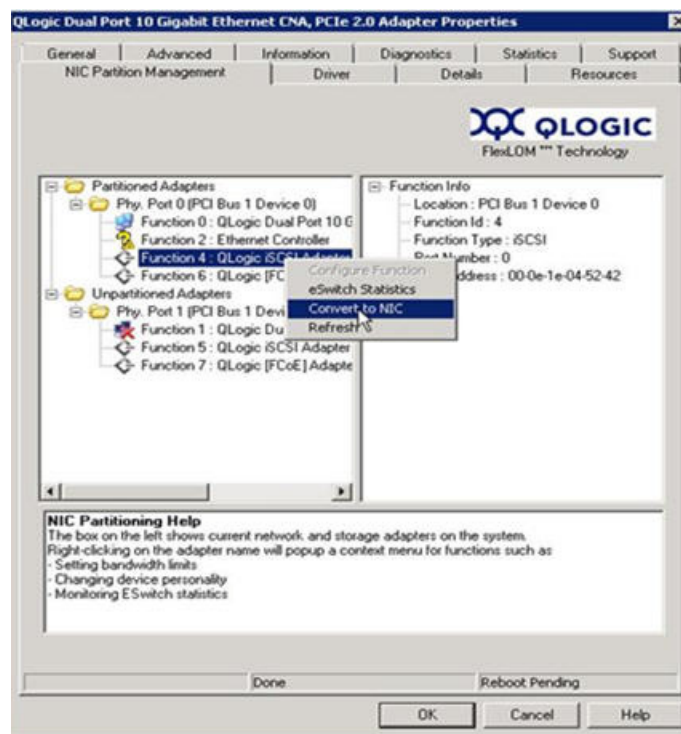

Figure 2-42. Selecting Convert to NIC from Context Menu
3. On the **NIC Partition Management** tab, right-click one of the enabled functions and select **Convert to <Protocol>** from the context menu (Figure 2-42).